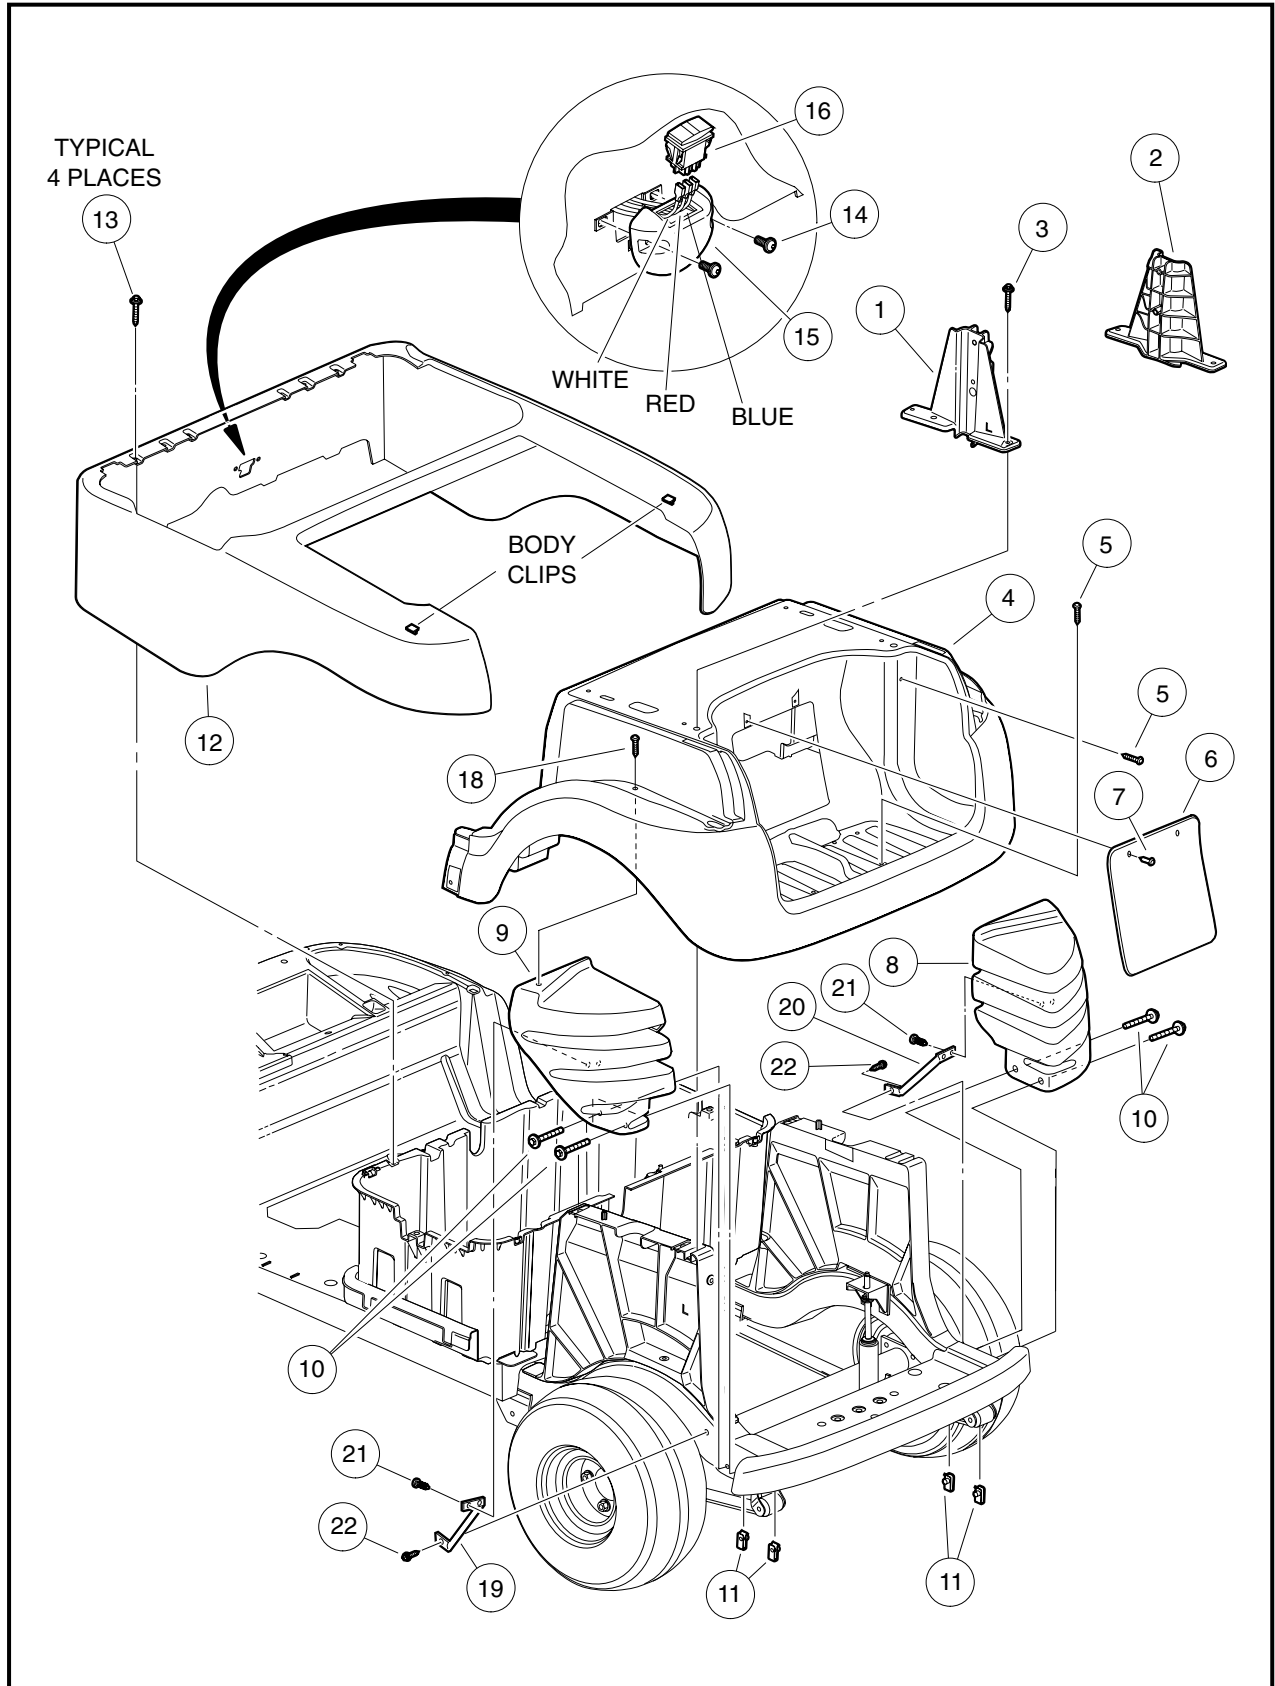

Figure 4-7 Rear Body Disassembly
2. Remove one screw (3) from each canopy support bracket (1 and 2) (**Figure 4-7, Page 4-13**). Remove canopy supports.
3. Remove four screws (13) attaching the rear beauty panel (12) to the fuel bucket.
4. Remove two screws (14) and remove housing (15) from vehicle.
5. Disconnect electrical wires from switch (16).
Access panel (6) is secured to the rear underbody (4) with two expanding screws (7) (**Figure 4-7, Page 4-13**). When replacing the panel, tighten screws (7) enough to hold the panel in place.
1. Remove four screws (5) attaching the rear underbody (4) to vehicle (**Figure 4-7, Page 4-13**).
2. Remove two screws (18) that attach the underbody to the two liners (8 and 9).
3. Lift the rear edge of the rear underbody (4) until the front portion slides out from beneath the front underbody. Remove the rear underbody from the vehicle.
1. Install rear underbody (4) on the vehicle (**Figure 4-7, Page 4-13**). Install two screws (18) to secure the underbody to the two wheel liners (8 and 9) and install four screws (5) to secure the underbody to its vehicle. Tighten screws (5 and 18) to 3.7 ft-lb (5 N·m).
1. Remove two screws (21) from the upper portion of each support (19 and 20) (**Figure 4-7, Page 4-13**).
2. Remove one screw (22) from the lower portion of each support (19 and 20). Remove supports from vehicle.
3. Remove bolts (10) to release liners (8 and 9) from vehicle.